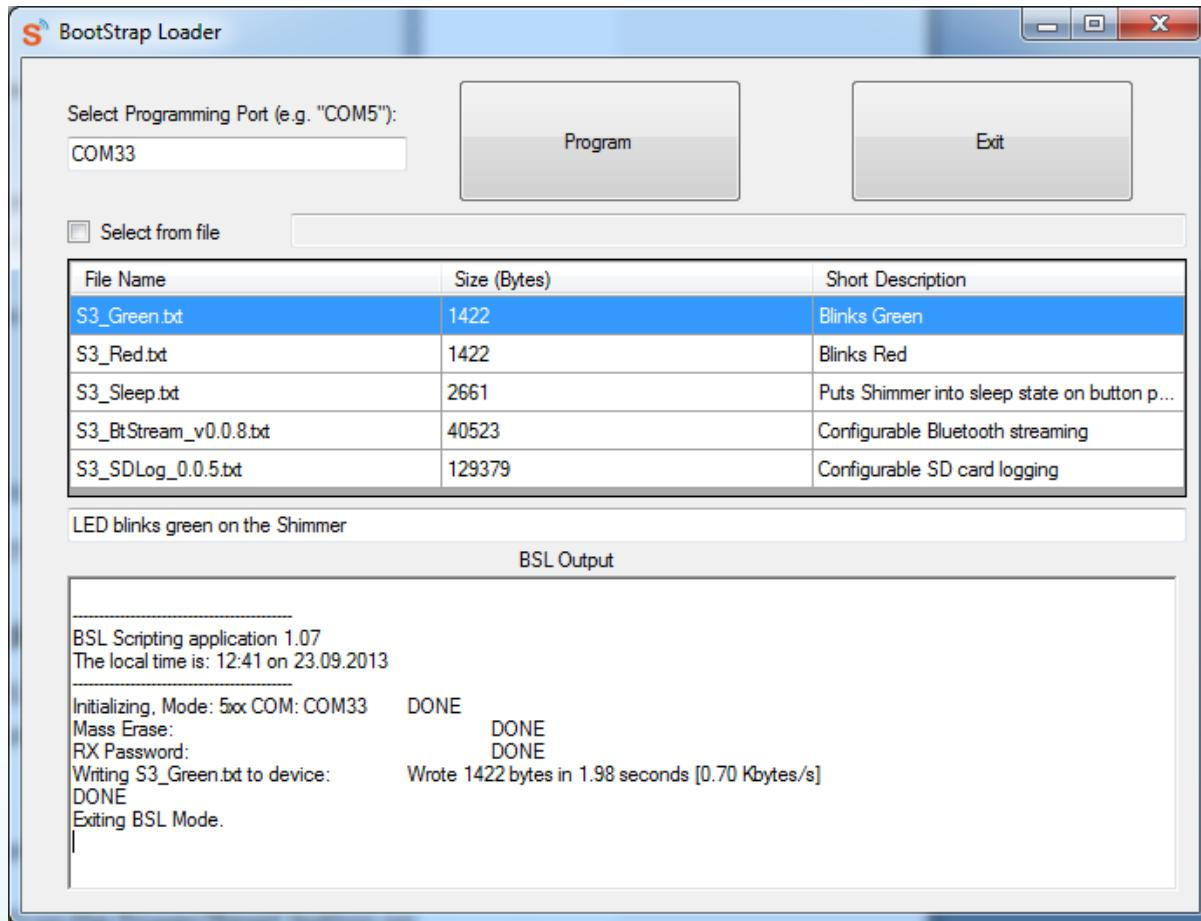

Figure 5-3 Shimmer3BSL programming output
- The BSL Output area of the *Shimmer3 BSL* application will also be updated to display the output of the BSL script execution, as shown in Figure 5-3.